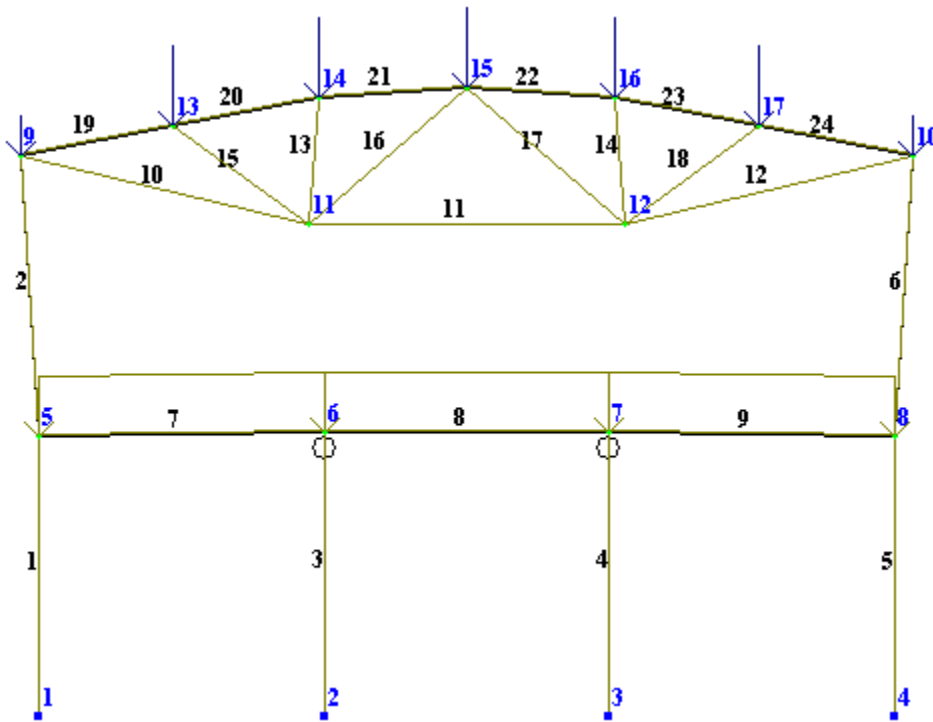

Figure 3.31 Design model with account of nodal displacements
- ⇒ In the mode of analysis results visualization, by default design model is presented with account of nodal displacements (see Fig.3.31). To display the model without nodal displacements, on the **Results** ribbon tab, on the **Deformations** panel, click **Initial model** button .